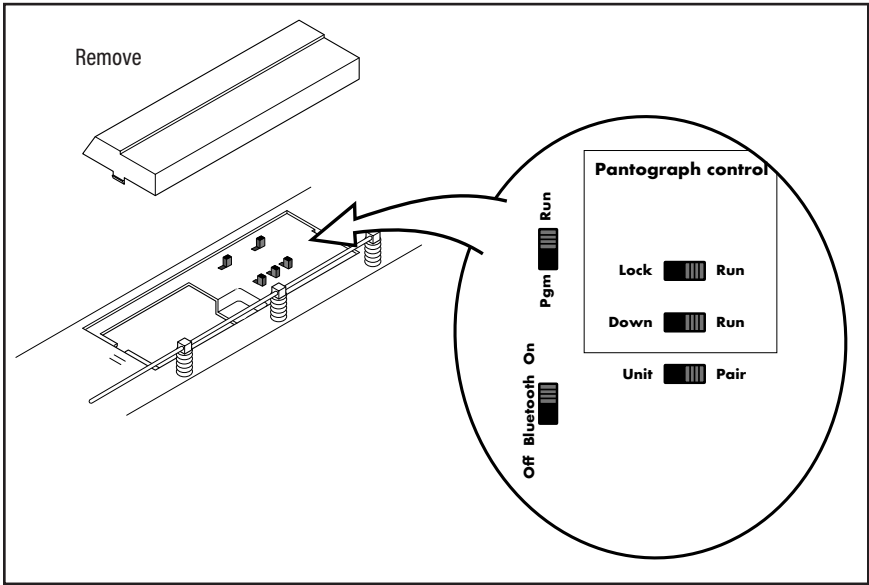

Figure 3. Switch locations (under removable roof panel)
- 1. Slide the Program-Run switch on both units to the PGM position.** See Figure 3 on page 10.
- 1. Slide the Program-Run switch on your locomotive to the PGM position.** See Figure 3 on page 10.